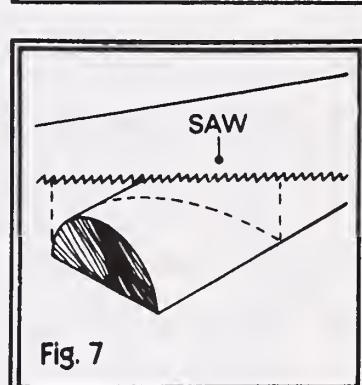
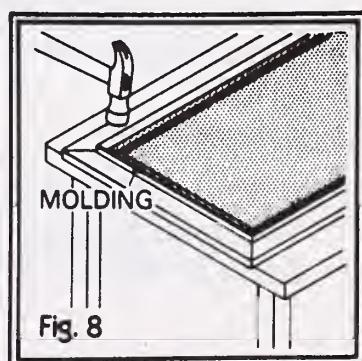

Fig. 7
Fig. 8
3. Mark off a distance of $\frac{1}{2}$ inch at each end of the molding strip. Using the saw, cut this portion off at a 45° angle to have mitered corners (fig. 7). Using the hammer and finishing nails, nail the molding over the screen along the inner edge of the frame surface (fig. 8).